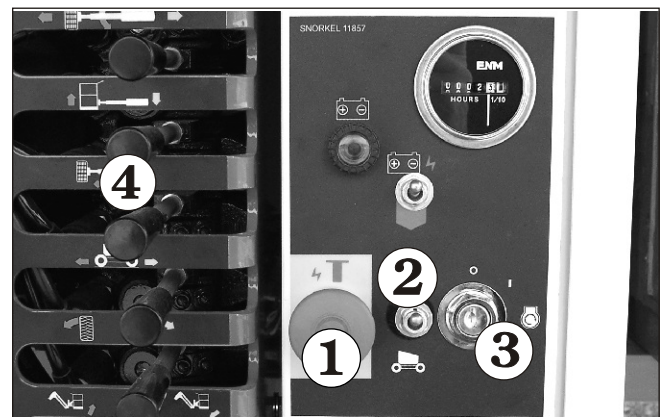

Figure 7.1—Ground Controls
Use the following procedure to operate boom or platform functions using the lower controls (refer to Figure 7.1).
1. At the lower controls, insert the key into the master switch② (refer to Figure 7.1) and turn the key on.
2. Switch to platform operation③ (refer to Figure 7.1).